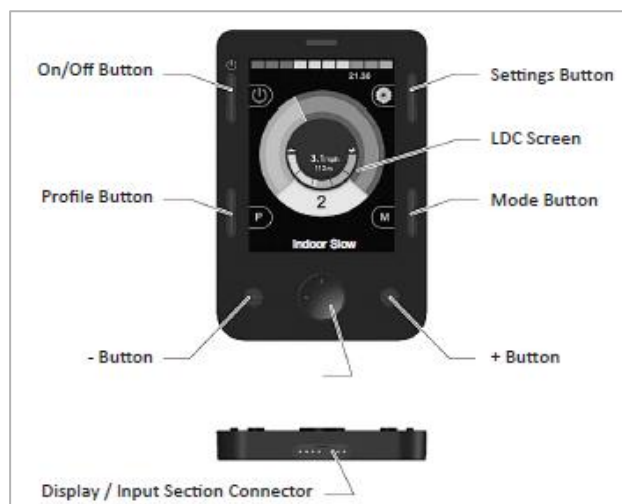

Figure 1
The OMNI2 comprises of two sections – a display section and an input section. The following diagrams show the controls and connections for each, (Figure 1, 2).
LCD SCREEN (Figure 1)
ON/OFF BUTTON (Figure 1)
PROFILE BUTTON (Figure 1)
SETTINGS BUTTON (Figure. 1)
MODE BUTTON (Figure 1)
NAVIGATION BUTTONS (Figure 1)
- / + BUTTONS (Figure 1)
DISPLAY/INPUT SECTION CONNECTORS (Figures 1 & 2)